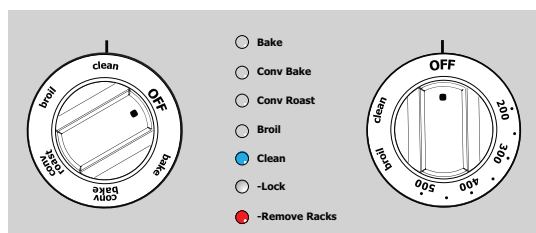

Figure 22: Initial clean selection
1. Turn the function dial to **clean**. The **Clean** and **Remove Racks** indicator lights will blink to remind you to remove the racks and rack ladders from the oven cavity (Figure 22).